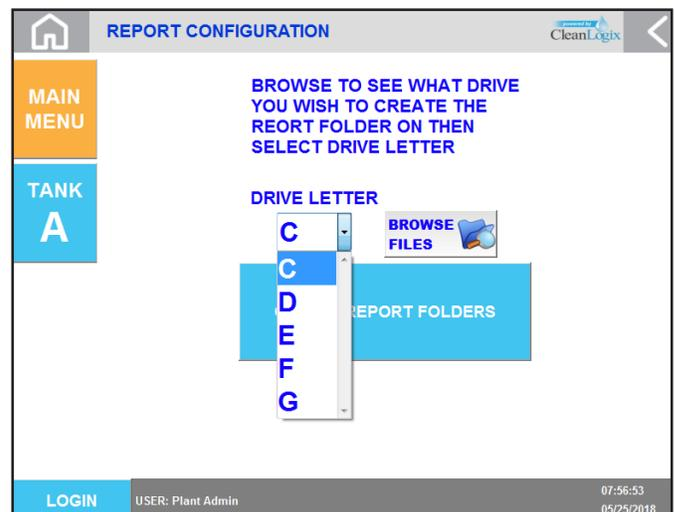

Figure 14.2: Report Configuration screen, USB drive selection
3. Using the drop down menu, identify the USB drive currently in use [Figure 14.2].